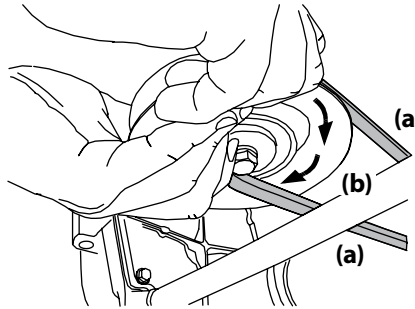

Figure 4-13
- d. While still holding the PTO belt (a) downward, continue turning the PTO pulley (b) until the PTO belt (a) is rolled off the PTO pulley (b). Refer to Figure 4-13.
11. Pull the right side of the PTO belt rearward and place the narrow V-side of the PTO belt into the PTO pulley. See Figure 4-13.
12. While holding the PTO belt and PTO pulley together, rotate the PTO pulley to the left (See Figure 4-13). Continue holding and rotating the PTO pulley and PTO belt until the PTO belt is fully rolled into the PTO pulley.